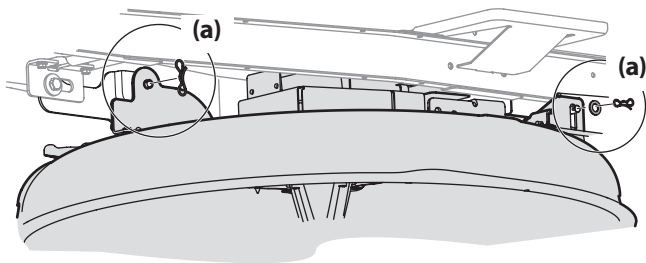

Figure 21
5. Remove the remaining bow-tie cotter pins (a) securing the deck to the riding mower, as shown in Figure 21.
5. Secure the deck to the deck lift arms using two bow-tie cotter pins. See Figure 21.